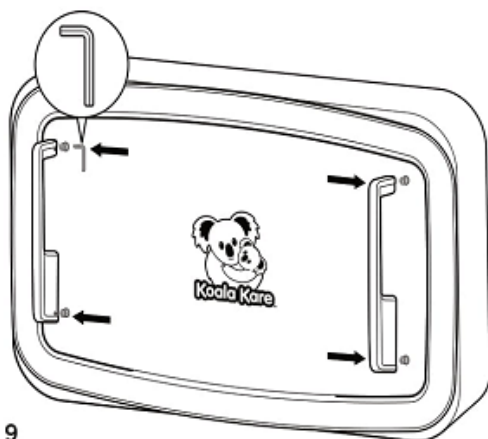

Fig. 9
- Use provided Allen wrench to tighten the set screws in the handles, securing it to the handle mounting studs. **Fig. 9**